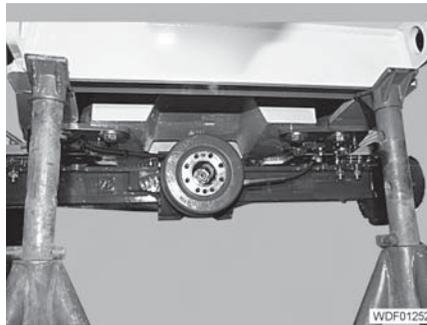

Fig. 237 Front carriage support
- Support the front carriage with suitable jack stands to prevent it from tipping over (Fig. 237), and so that the wheels can be turned freely.